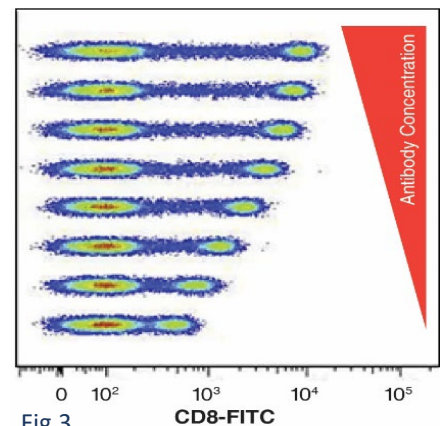

Fig.3
- Fig. 3 below illustrates the data from an antibody titration. The Stain Index (SI), using the equation, can guide us in determining the optimal concentration. As the concentration increases, the SI initially rises but then starts to decline due to increased background noise.